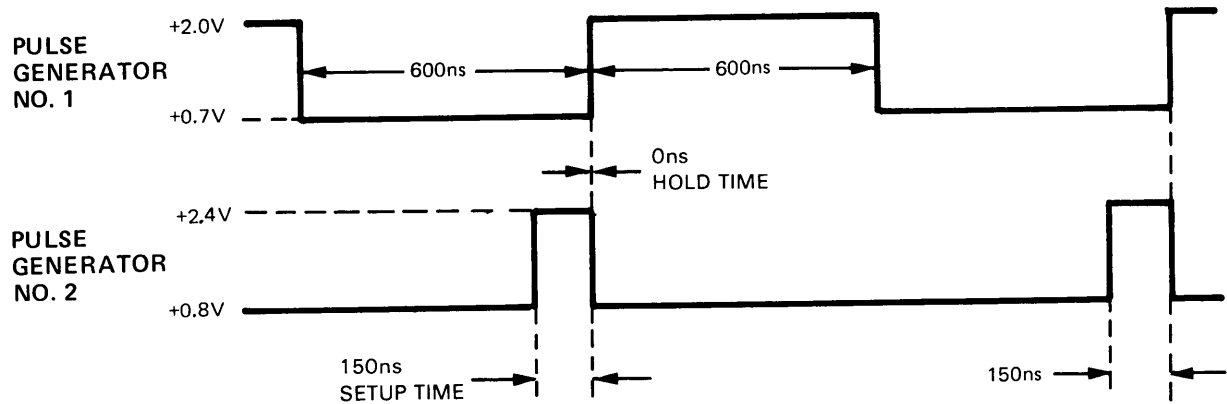

Figure 4-9. External Probe A12 Test Waveforms
- d. Adjust Pulse generators for waveforms shown in figure 4-9.